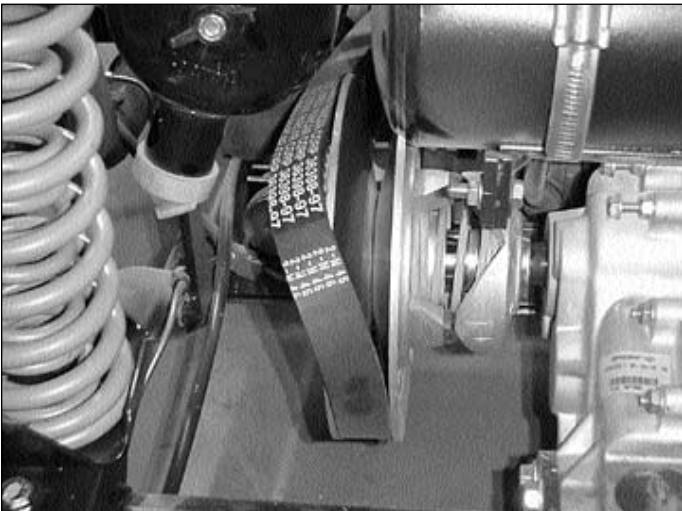

Figure 12 - Remove Drive Belt
7. To remove drive belt, loosen air cleaner wing nut and rotate air cleaner dust unloader away from secondary transmission. Lift drive belt and roll towards rear, sliding belt off secondary transmission. See Figure 12.